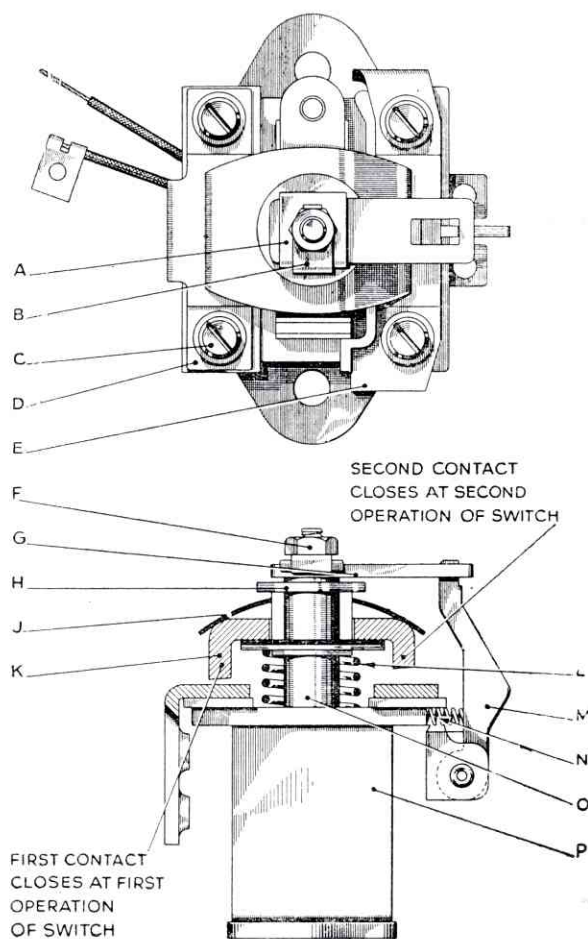

FIG. 129. SOLENOID SWITCH
1. To dismantle switch, release locking washer (B), Fig. 129, remove nut (F), catch holding plate (A), trigger catch (G), bridge piece (K) with flat spring and insulating washer. Take care that trigger spring (N) does not fall out when catch is removed.
- Remove fixed contacts by taking out retaining screws (C), Fig. 129.
The air gaps are shown in Fig. 129.
Connect a 24-volt battery to the main starter terminals, battery positive to starter positive. Connect a lead from battery positive to SOL terminal through a push-button switch. Insert a piece of paper between the second contacts, Fig. 129, of the solenoid switch.